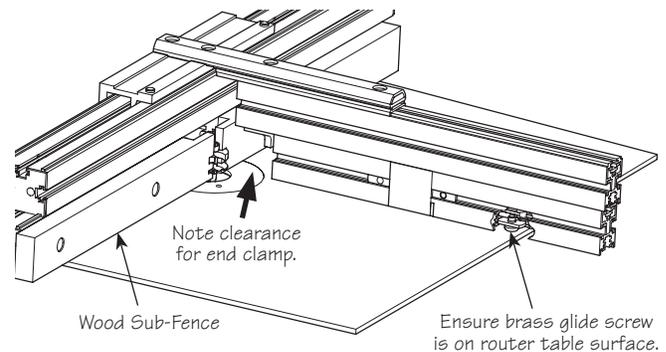

Figure 6: Sled set-up for end routing.
2. Loosen both arm screws and retract the strut assembly from the fence so there is sufficient space for the bit to clear the end clamp (see **Figure 6**).